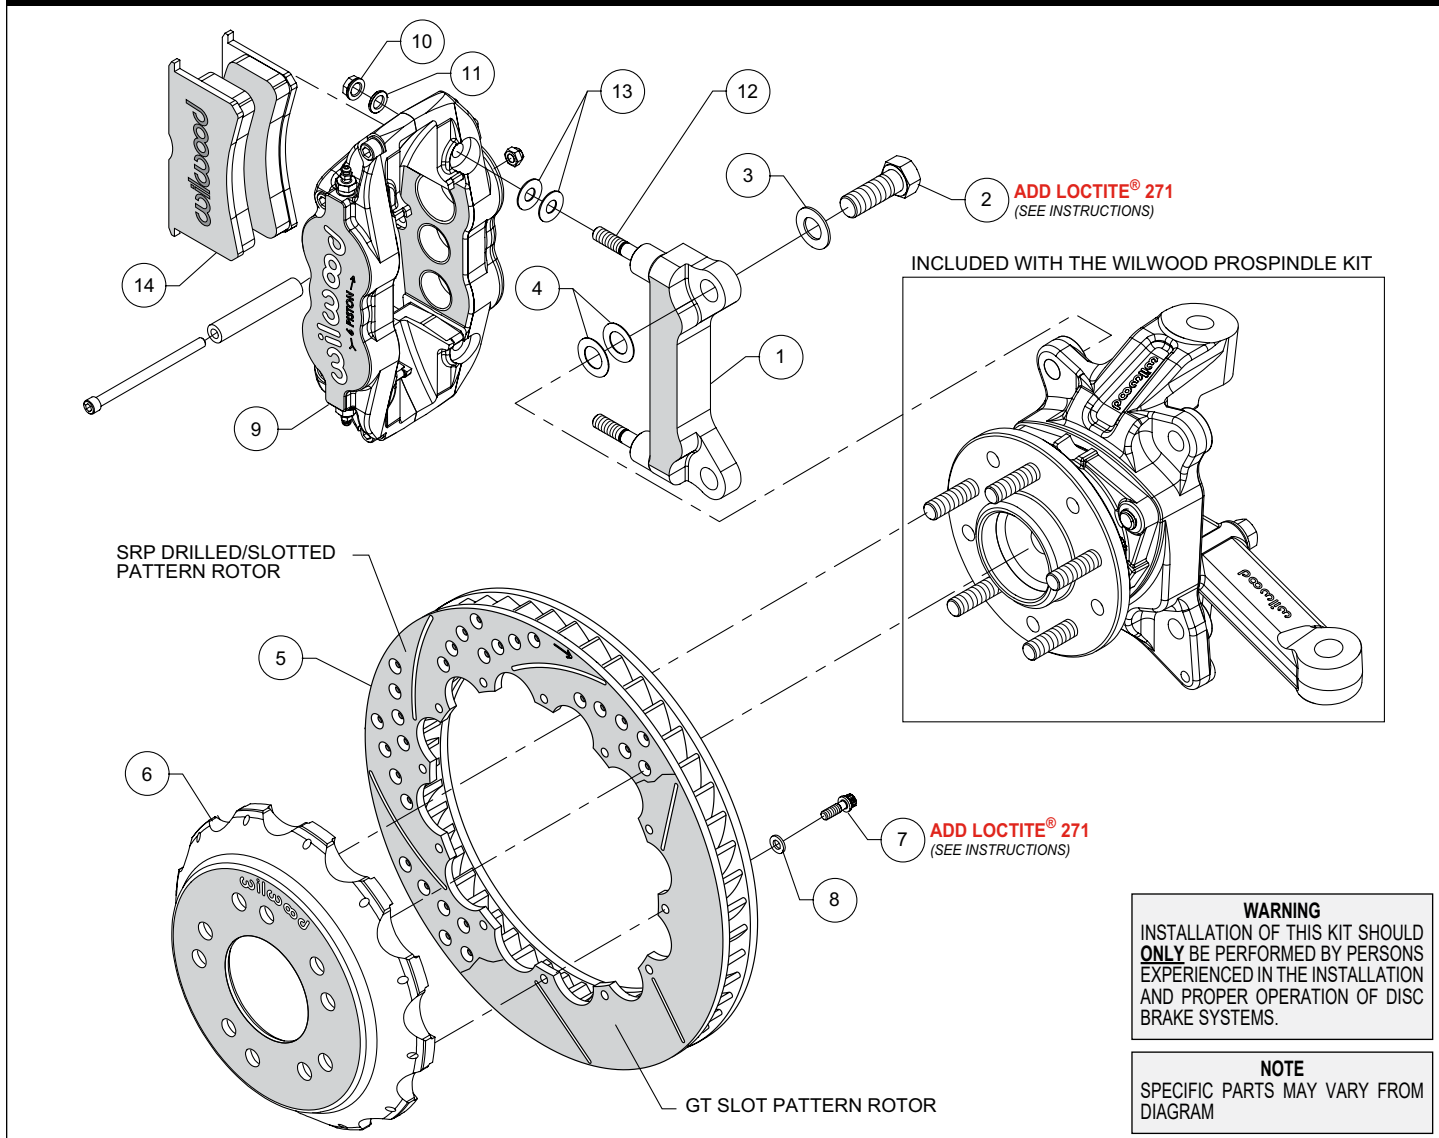
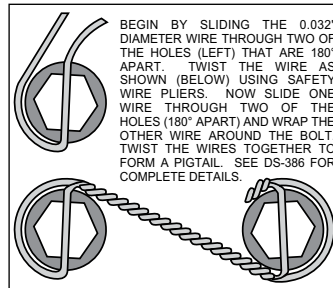

Figure 1. Typical Installation Configuration
Figure 3. Safety Wire Diagram
**Assembly Instructions** (numbers in parenthesis refer to the parts list and Figure 1 on the preceding pages):
• The caliper mount bracket (1) should initially be installed with clean, dry threads on the mounting bolts. Orient the bracket as shown in Figure 1 and Photo 1 and install using mount bolts (2) and washers (3). Initially place two .024" thick shims (4) on each bolt between the bracket and spindle, Figure 1. Temporarily tighten the mounting bolts. **NOTE: The bracket must fit squarely against the mounting points on the spindle.** Inspect for interference from casting irregularities, machining ridges, burrs, etc. Later, after the caliper alignment has been checked, the mount bolts will be secured using red *Loctite*® 271.
- Orient the rotor (5) and the hat (6) as shown in Figure 1 and Photo 2. Attach rotor to hat using bolts (7) and washers (8). Apply red *Loctite*® 271 to the bolt threads and torque to 155 **in-lb** using a criss-cross pattern. For an added measure of security, the bolts may be safety wired using standard 0.032 inch diameter stainless steel safety wire as shown in Figure 3. Please refer to Wilwood's data sheet DS-386 (available at [www.wilwood.com/Pdf/DataSheets/ds386.pdf](http://www.wilwood.com/Pdf/DataSheets/ds386.pdf)) for complete safety wire installation instructions.
- **NOTE:** *This kit contains distinct right and left hand calipers that must be mounted in a specific direction, as described below.* Initially place two .035" thick shims (13) on each stud (12) between the caliper and the bracket, as shown in Figure 1 and Photo 5. Mount the caliper (9) onto the bracket (1) using lock nuts (10) and washers (11), Figure 1. Ensure that the caliper is mounted so the largest pistons are at the rotor exit end of the caliper, in relation to the direction of rotor rotation. Temporarily tighten the lock nuts and view the rotor through the top opening of the caliper. The rotor should be centered in the caliper, Photo 6. If not, adjust by adding or subtracting shims (4) between the bracket and the spindle. Always use the same amount of shims on each of the two mounting bolts. Once the caliper alignment is correct, remove the bracket mounting bolts one at a time, apply red *Loctite*® 271 to the threads, and torque to 140 ft-lb.